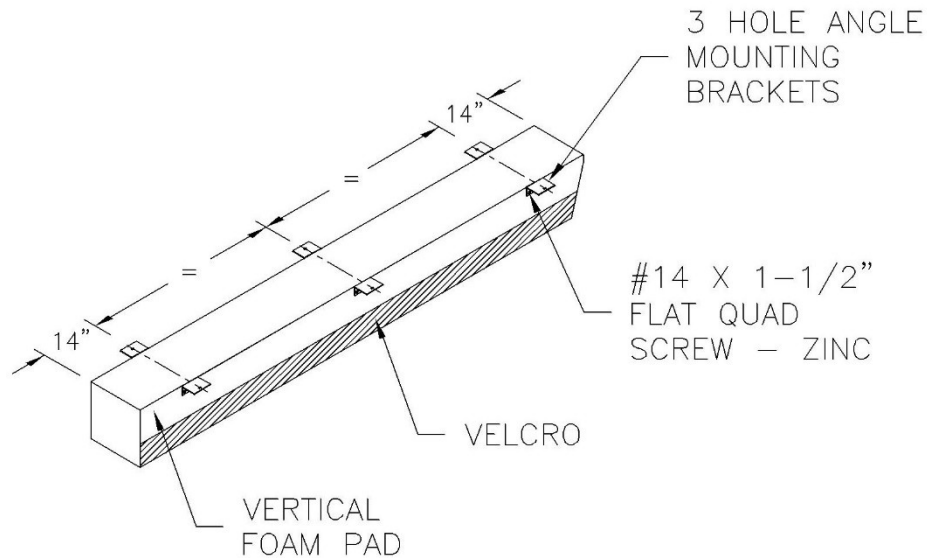

FIG. 4
- i. Fasten galvanized steel angle brackets, using No. 14 wood screws, to the inside and outside perimeter of each vertical pad (Fig. 4).